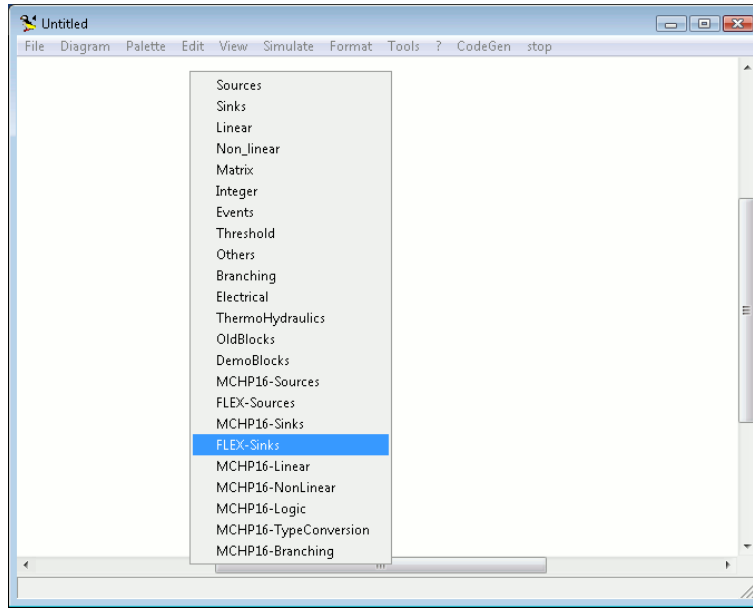
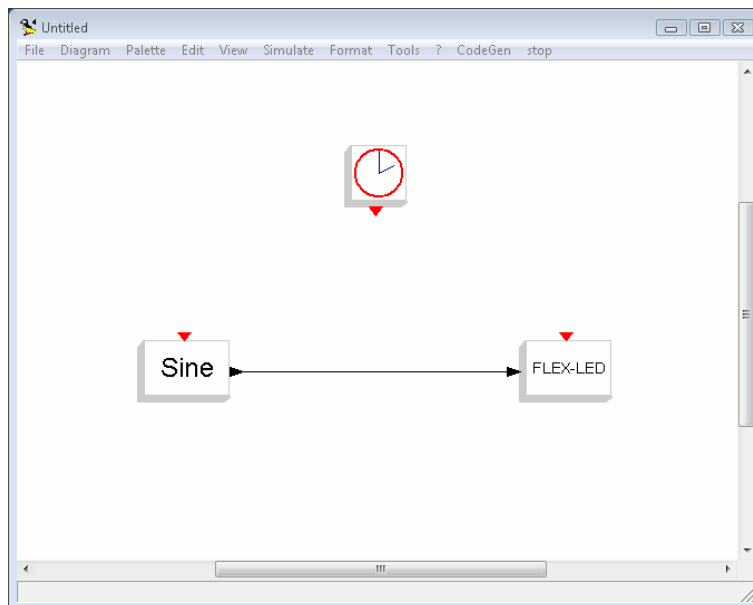

Figure 5.4: The Palette list.
Figure 5.9: Put the clock block over the Sine and LED blocks.
5. A little list appear in place of the menu. Select **FLEX-Sinks**, as showed in Figure 5.4.
10. From the **MCHP16-Sources** Palette, which can be found in the palette list (see Figure 5.4). Choose the red clock, and put it on the diagram as shown in Figure 5.9.